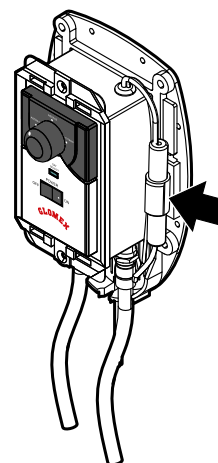

Fig. 29
- Remove the blown fuse from its seat indicated in **Fig. 29** and replace it with a new one (**type T 3A15 5x20**, i.e. delayed-action tube fuse, with 5 mm diameter and 20 mm length, 3 A rated current and 15 V rated voltage).